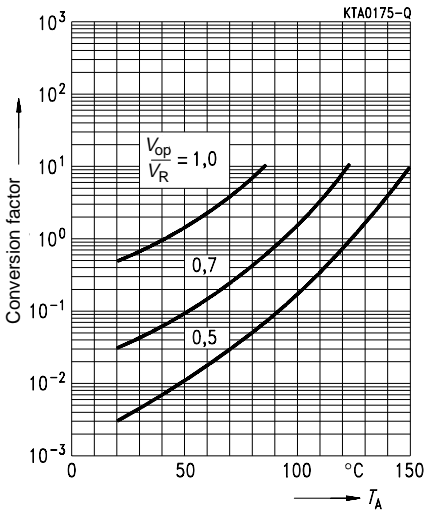

Fig. 2 Conversion factors for the failure rate
- with decreasing operating temperature (cf. paragraph 5.3 and figure 2)
Conversion factors for taking into account the effects of ambient temperature and operating voltage on the failure rate within the service life can be deduced from the table below or from the graph in figure 2 (guideline values).
For $\frac{V_{op}}{V_R} = 0,5$ and $T_A = 60$ °C, a conversion factor of approximately 0,015 is deduced from figure 2 on page 71. The same value is obtained from the table on page 70 by multiplying $\pi_V \cdot \pi_T$.